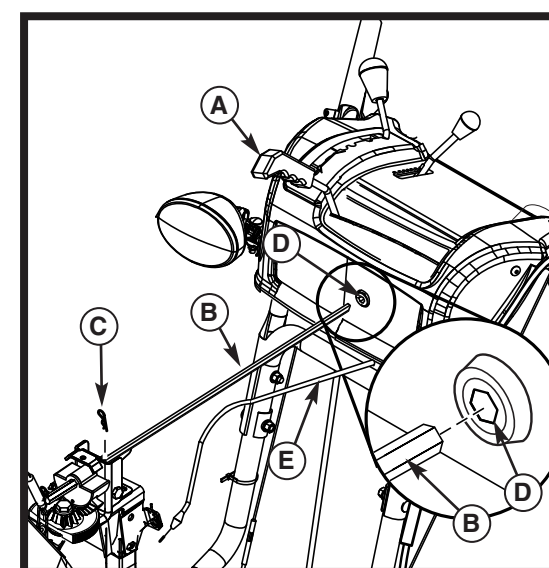

Figure 9
- Move chute rotator control handle (A, Figure 9) to the right hand side of the machine.
- Slide spout rotator rod (B, Figure 9) into hex dash opening (D). It may be necessary to move chute rotator handle (B) for rod to go into dash.
- Insert hair pin (C, Figure 9) into spout rotator rod (D).
- Slide the spout rotator brake cable (E, Figure 9) between the dash and the handle cross bar as shown.